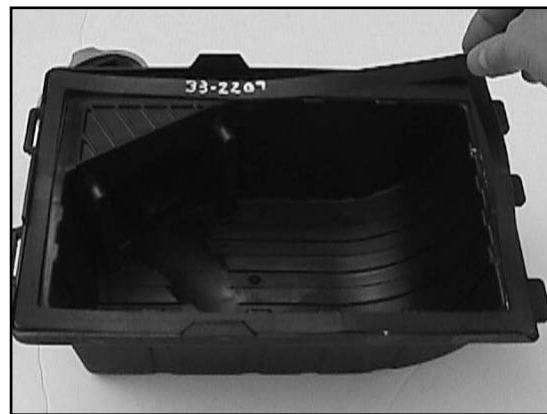

Fig. 2
6. Apply the self-sticking gasket around the edge of the airbox lid. (See Fig 2)